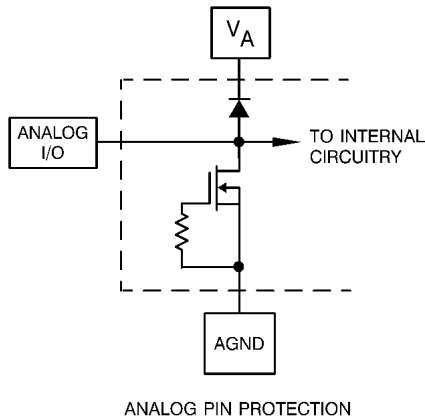
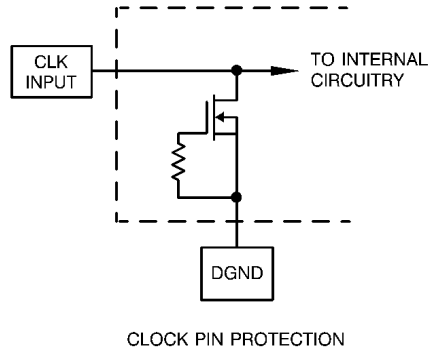
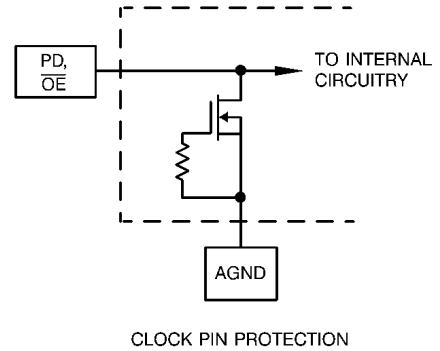

Figure 1.
Figure 2.
Figure 3.
- The inputs are protected as shown below. Input voltage magnitudes up to 500mV beyond the supply rails will not damage this device. However, errors in the A/D conversion can occur if the input goes above V_A or below AGND by more than 300 mV. See Figure 1, Figure 2 and Figure 3.